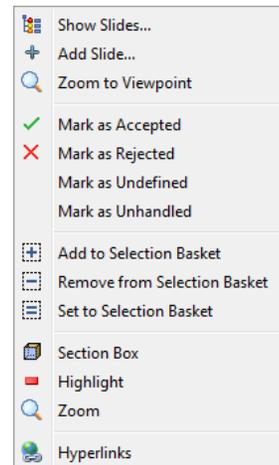
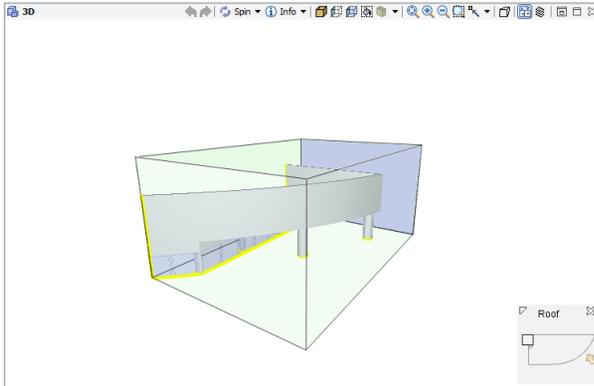

Figure 55 Select Section Box from the popup menu in the Results view
Figure 56 Section Box
- (12) Creating a **Section Box**. Select one of the issues or categories, click right your mouse, and choose **Section Box** in **Results View** popup menu (see Figure 55). Now a section box around the problematic components is created (see Figure 56).